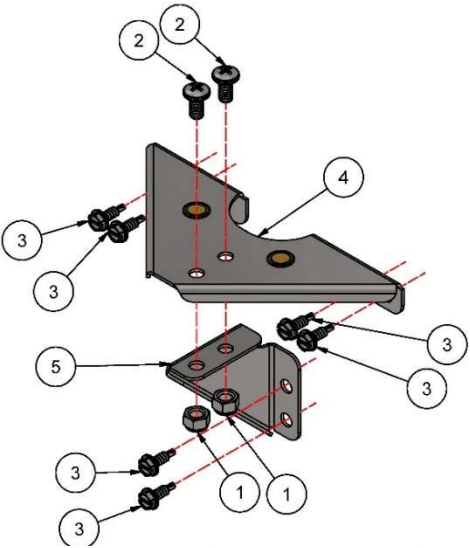

Figure 17
- 5. For kennels deeper than eight-foot, an additional gusset is required at the side panel connection point. This gusset may or may not be preassembled from the factory. To assemble see Figure 17.